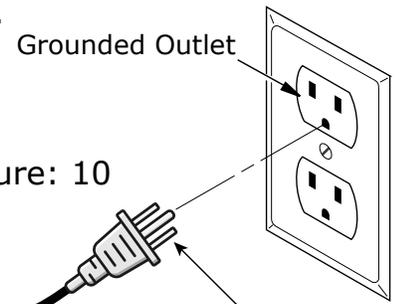

Figure: 10
- Plug fan kit into 120-Volt grounded power supply and test operation. (Figure: 10)